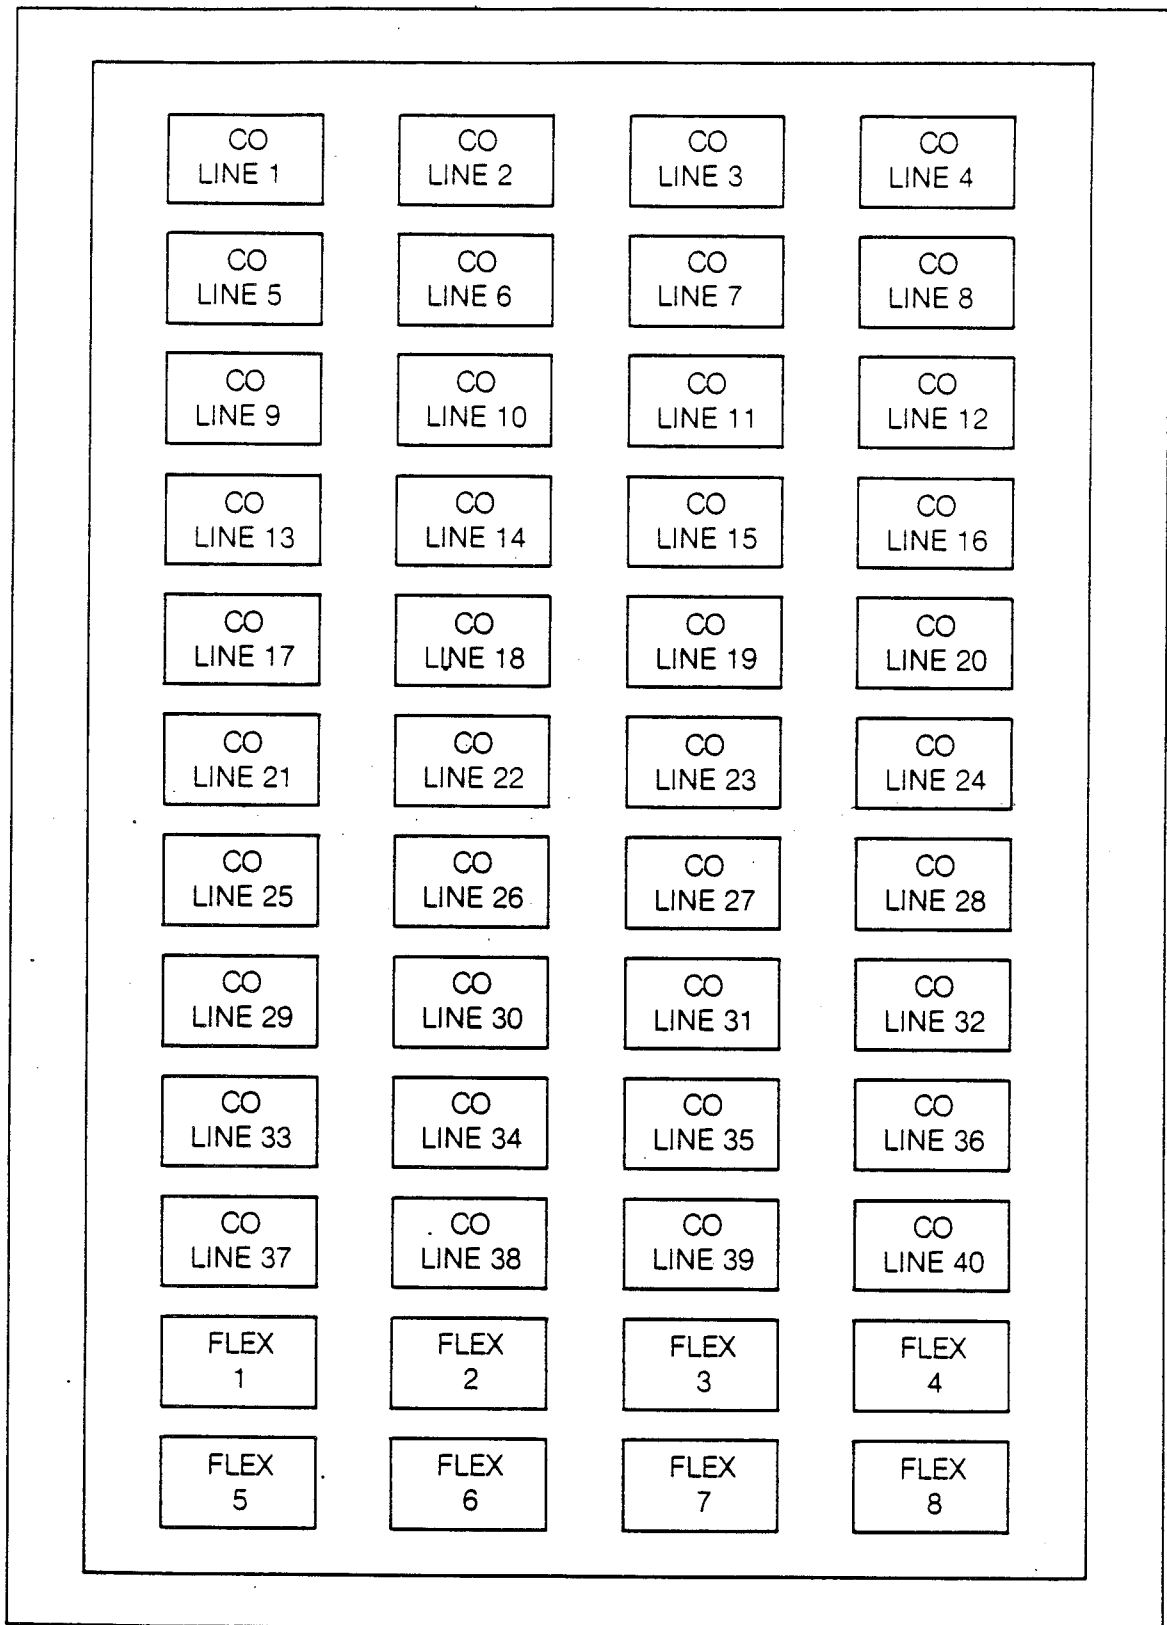

Figure 6-4 DSS/DLS Map 3 Button Assignments
- 3 = DSS with MAP 3 (Figure 6-4)